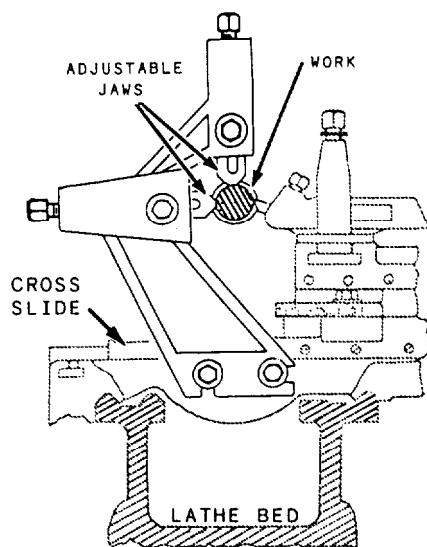

Figure 9-14.—Follower rest.
pressure. It can be set to either precede or follow the cutting action. As shown in figure 9-14, it is attached directly to the saddle by bolts (B). The adjustable jaws bear directly on the part of the work opposite the cutting tool.